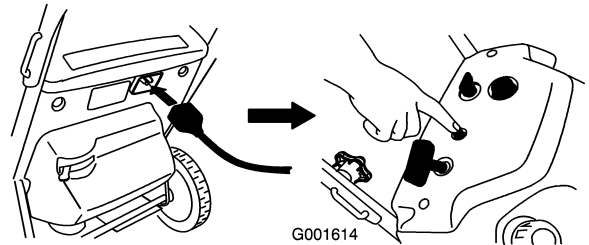
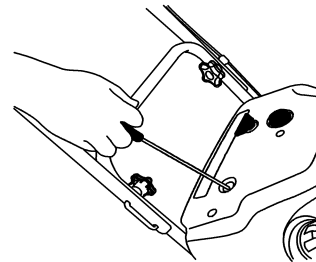

Figure 14
Figure 15
- Push the electric-start button (Figure 14) or pull the recoil starter (Figure 15).